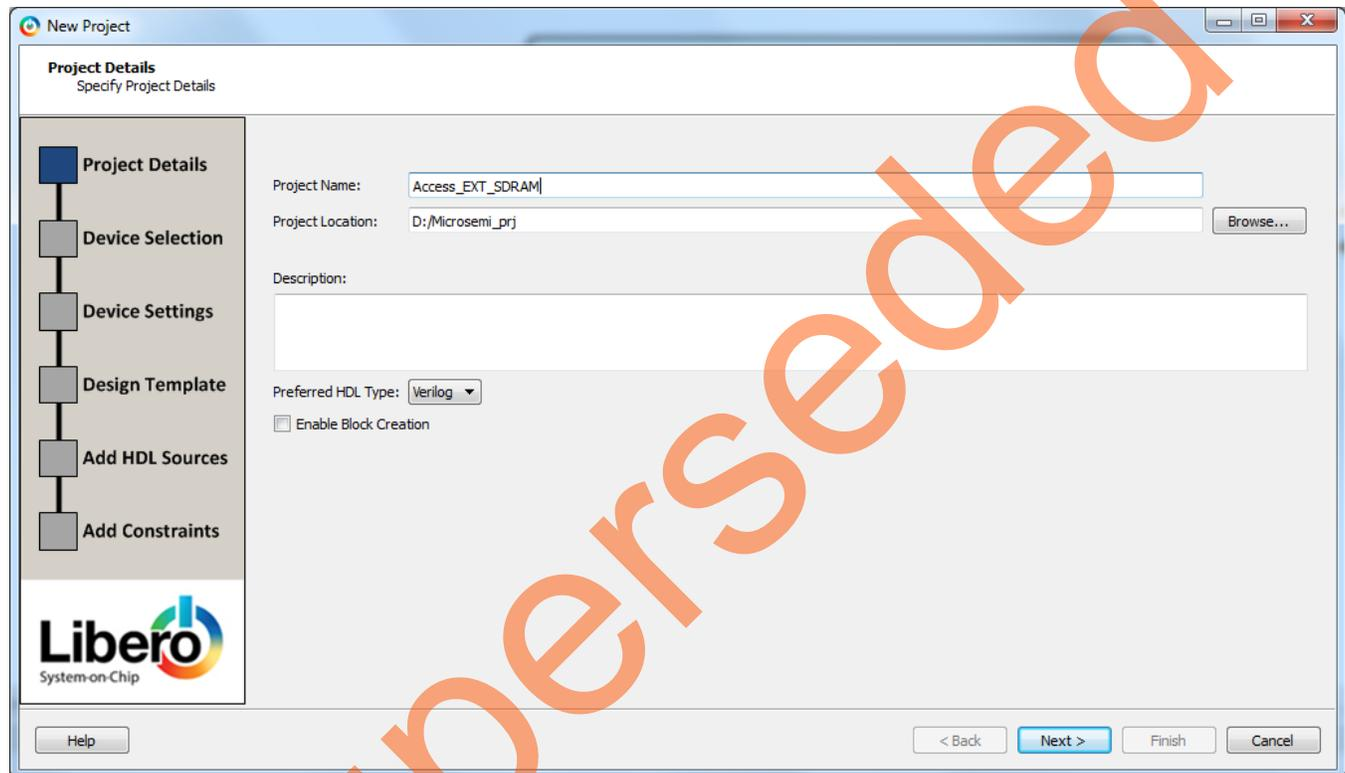

Figure 2. New Project – Project Details Page
3. Enter the information in Project Details window as displayed in Figure 2.